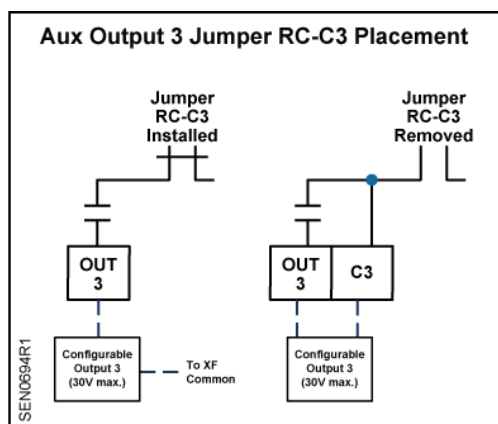

Figure 6. Wiring Schematic, Aux Output 3.
- Optional:** Auxiliary Output 3 can be changed to a dry (unpowered) contact by removing Jumper RC-C3 and connecting dry contact wires to OUT3 and C3. See *Wiring Diagrams*, Figure 6.